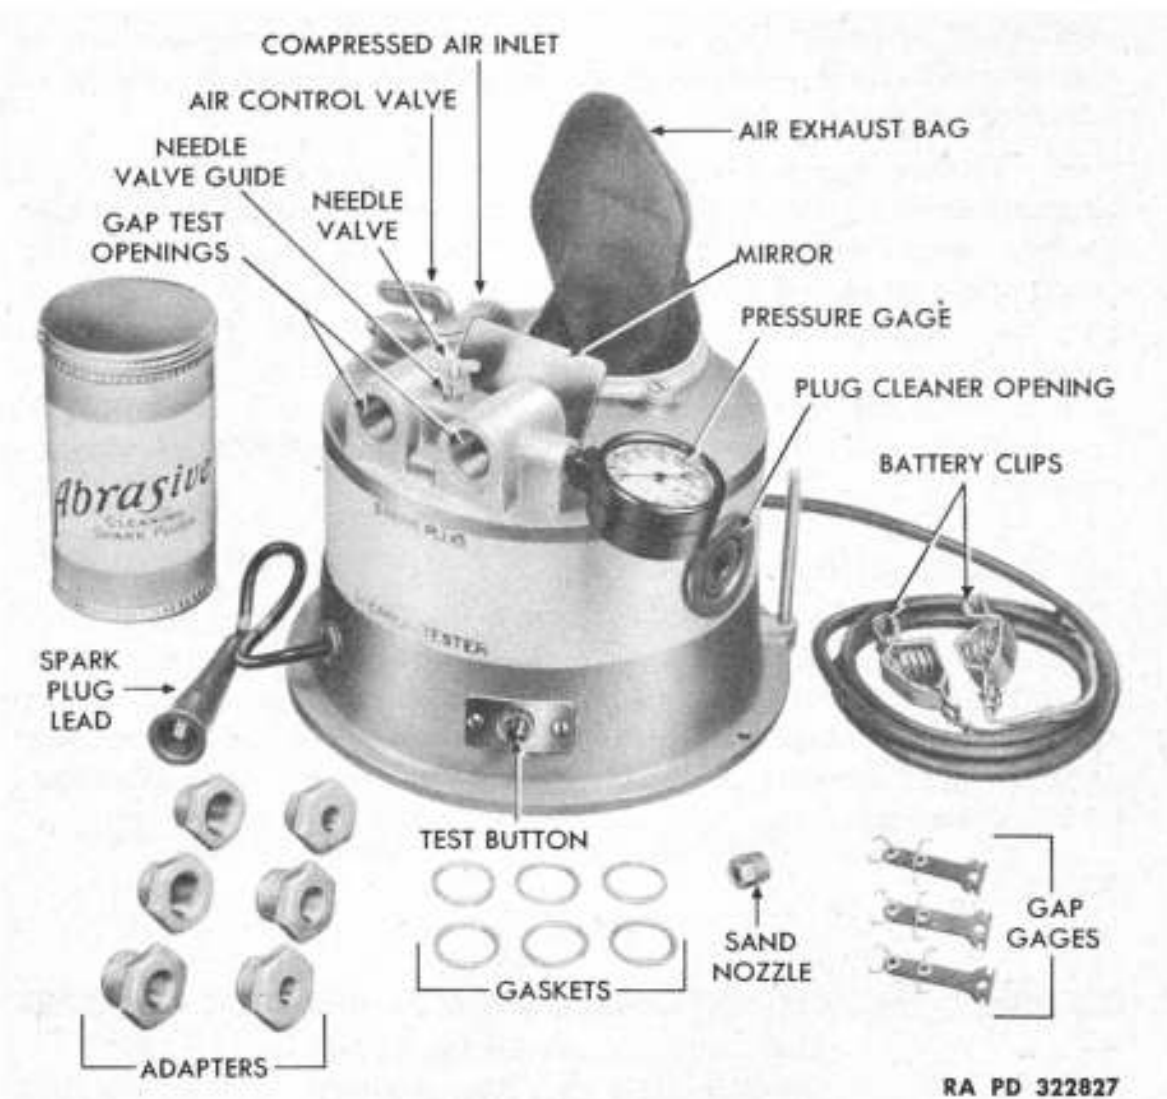

Figure 1—Spark Plug Cleaner and Tester
3. CONTROLS AND INSTRUMENTS (fig. 1).